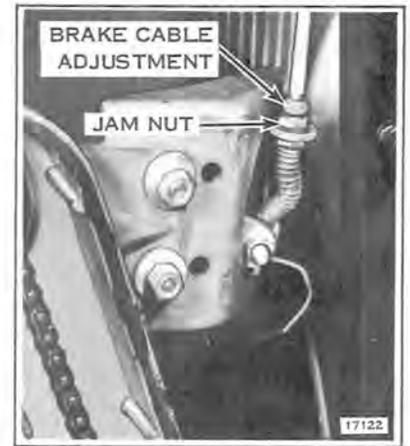

Figure 10-14
- c. With cable installed in hand lever, insert brake end of cable through adjusting fitting as far as possible and install return spring and washer. See Figure 10-14.